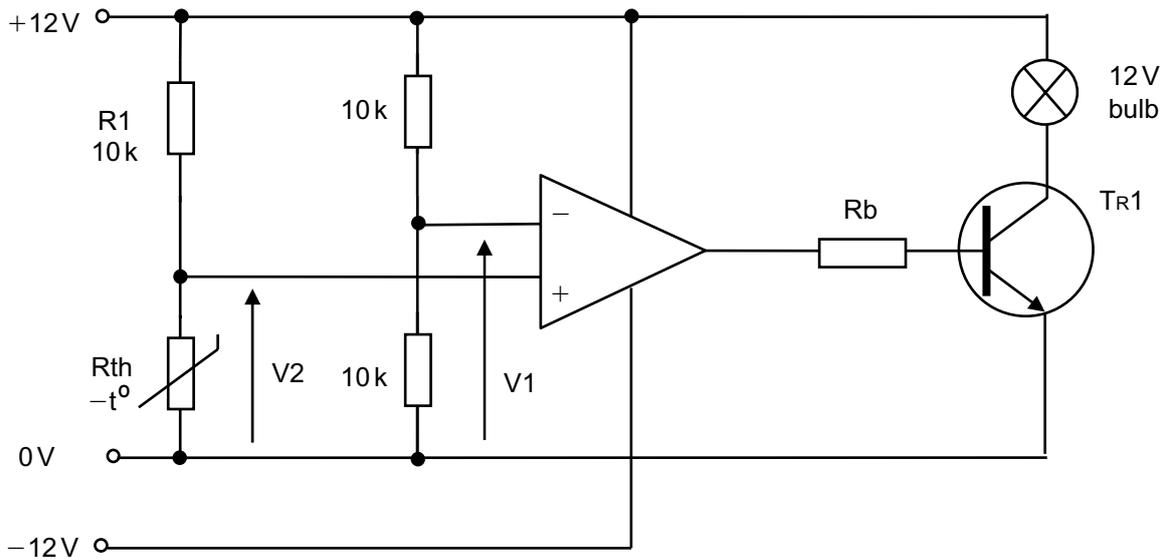

Fig. 10(a)
- 10 (a) Fig. 10(a) shows a prototype op amp based circuit for a system to keep newly hatched chicks warm. The system controls a 12 volt bulb that will produce sufficient heat to maintain room temperature.
- (i) State whether the comparator based circuit shown in Fig. 10(a) is an open loop or closed loop control system and briefly justify your answer. [2]
- (iii) Calculate the voltage V_1 in the circuit shown in Fig. 10(a) and calculate the voltage V_2 when the resistance of the thermistor R_{th} is $4.2\text{k}\Omega$ at 15°C . [3]
- (iv) If the transistor TR_1 in Fig. 10(a) has a current gain (h_{FE}) of 60 and a V_{be} of 0.6V , calculate the required value of R_b that will allow the bulb to operate with a current of 120mA . Assume that the output voltage of the op amp matches the supply voltage. [3]
- (v) With reference to V_1 and V_2 describe the operation of the circuit shown in Fig. 10(a) under both hot and cold conditions. [3]
- (b) A modification has been suggested for the circuit shown in Fig. 10(a) where the transistor and 12 volt bulb are to be replaced with a 24 volt heater and suitable driving circuitry. With the aid of an annotated circuit diagram, show how this modification could be achieved. [5]